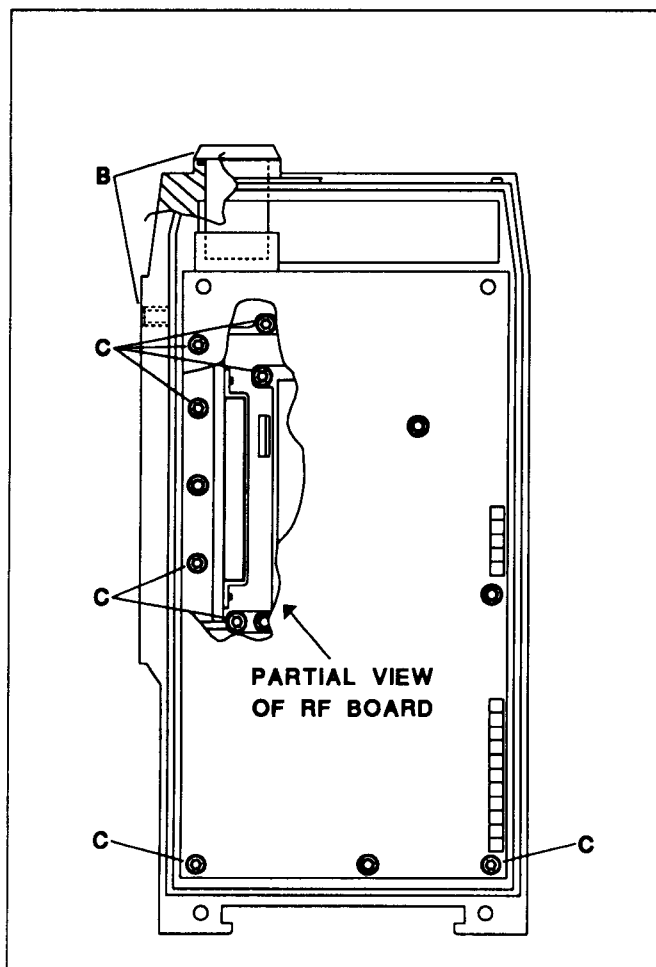

Figure 2 - RF Board Access
antenna jack (B). Next, remove the eight (8) Torx® screws (C) that secure the RF Board to the Rear Cover. See Figure 2. The RF Board and the eggcrate casting can now be lifted from the rear cover. Two (2) PA mounting Torx® screws and five (5) Torx® screws on the under-side secure the board to the eggcrate casting.